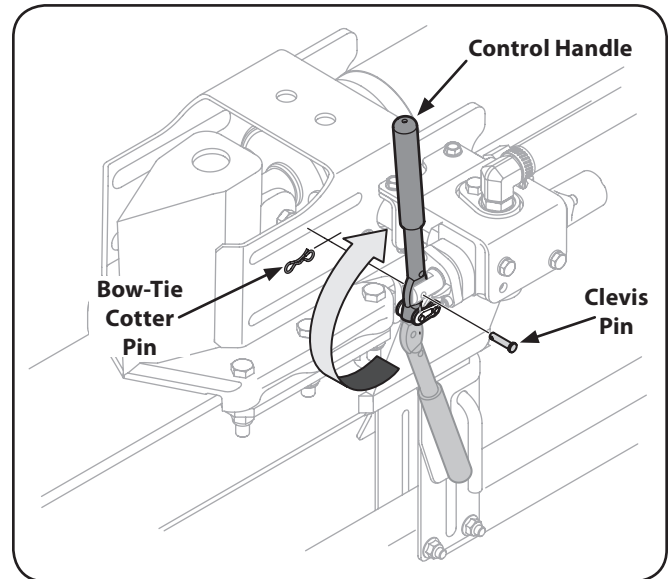

Figure 3-8
- Remove the clevis pin and bow-tie cotter pin from the control handle. See Figure 3-8.
- Rotate the control handle into the operating position and secure with the clevis pin and bow-tie cotter pin removed in step 22. See Figure 3-8.